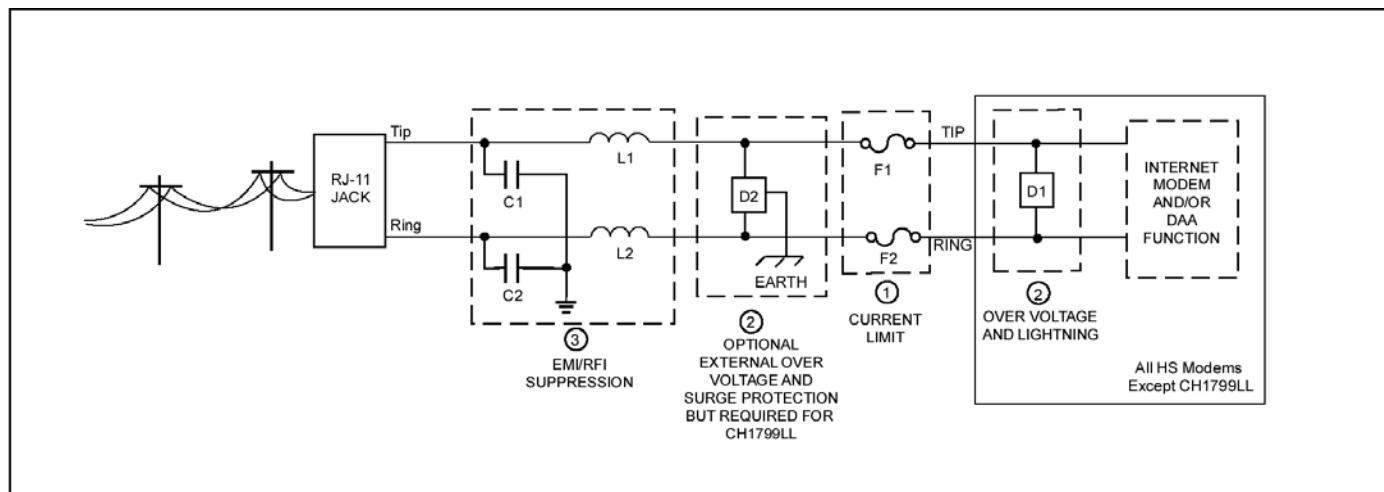

Figure 6. PSTN Line Interface for all HS Modems.
- A. Surge Protection is provided by internal circuitry contained within all HS Modems except the CH1799LL (see Figure 6). No additional external components are required to maintain conveyed FCC Part 68 approval for all HS Modems (excluding the CH1799LL).